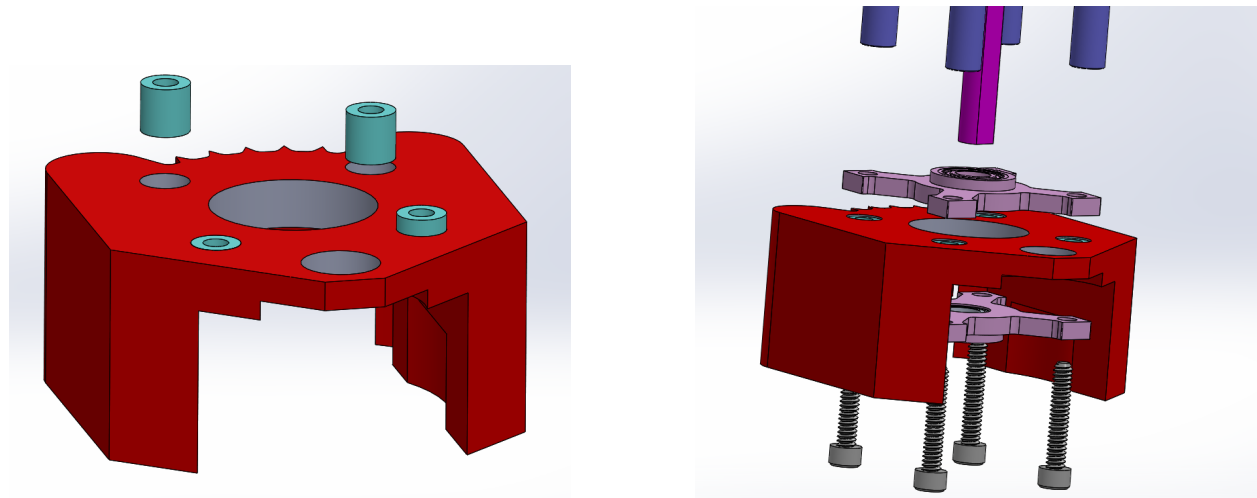

Figure 3: Corner Steering Step 3
3. **Encoder Mount:** Press the 0.25inch Spacers **T1** into the 3D printed encoder mount **S31**. If they do not fit, you can drill or file out the holes slightly until the spacers fit as shown in Figure 3 (The size and tolerance of the holes will vary slightly based on different 3D printers and materials). Attach the encoder mount and bearings to the threaded standoffs **T3** using screws **B5** and 0.25 inch pillow bearing blocks **S10**.